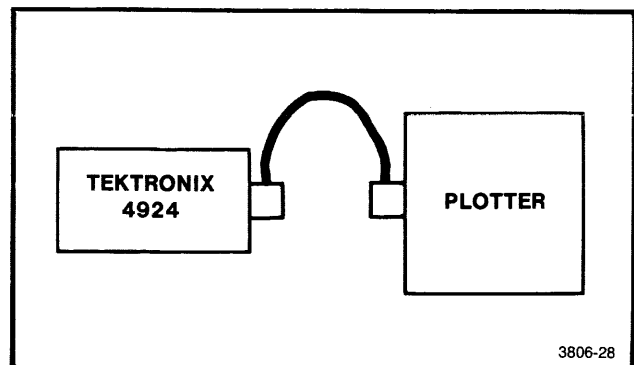

Figure 5-3. Typical OFF-LINE Configuration.
**Off-Line Plotting.** A plot can also be transferred to a plotter without needing a controller connected to the GPIB. A typical system involving a TEKTRONIX 4924 Digital Cartridge Tape Recorder and a plotter is shown in Figure 5-3. To transfer a plot, the plotter is enabled as a listener by selecting LISTEN ONLY on the four rear-panel switches. Then, the desired tape file is located on the 4924's tape cartridge. The 4924 is then enabled as a talker by pressing the TALK button on the 4924 front panel (the 4924's ON LINE button should be in the released or up position). The contents of the desired tape cartridge file are transferred to the plotter.
**Off-Line Digitizing Example.** Manually digitized coordinates could also be transferred from the plotter to an off-line storage device without a controller connected to the GPIB. A typical system involving a TEKTRONIX 4924 Digital Cartridge Tape Recorder and the plotter is shown in Figure 5-3. To transfer digitized coordinates, the plotter is enabled as a talker by selecting TALK ONLY by the four rear-panel switches. The desired tape file is located on the 4924's tape cartridge and the 4924 is enabled as a listener by pressing the LISTEN button on its front panel (the 4924's ON LINE button should be in the up or released position). Using the plotter's front-panel CALL switch, digitized coordinates are generated, transferred to the 4924, and stored on the tape cartridge. Before the last coordinate is digitized, the front-panel CALL switch is held down until the plotter's bell sounds once. The CALL switch then is pressed again momentarily to digitize the last point. This causes the plotter to send EOI true at the end of the output block, causing the 4924 to close the tape file.